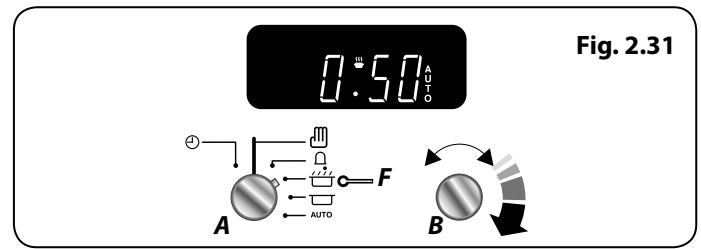

Fig. 2.31
1. Turn the **Timer (A)** knob to the **Cook Time (F)** setting. Turn the **Adjusting (B)** knob clockwise to set the length of the cooking time required e.g. 50 seconds (**Fig. 2.31**).